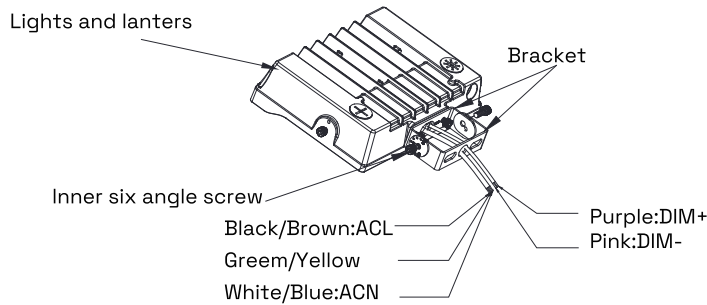

Fig 6.5
Step 2: Finish the wire connection according to the right mode of connection (pay attention to positive wire, negative wire and ground wire). Figure 6.5